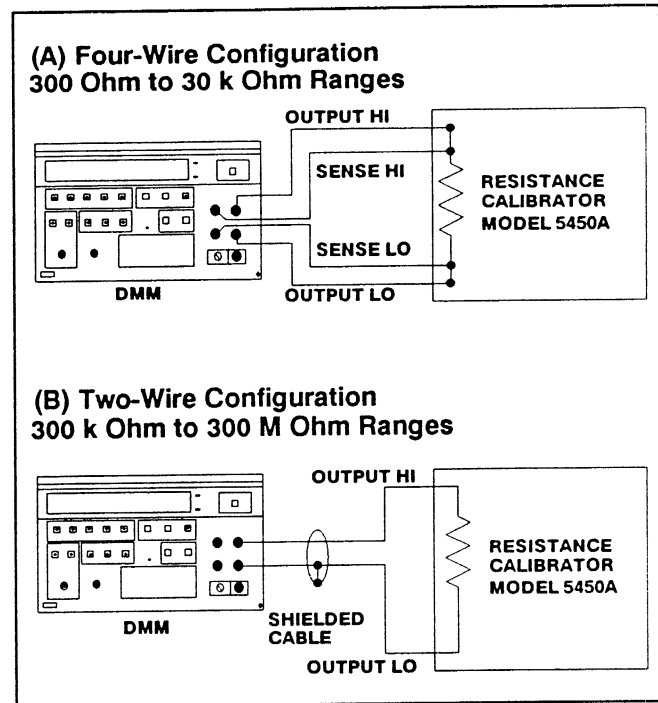

Fig. 3-2. Resistance Calibration Configuration.
- Connect the DMM to the resistance calibrator as shown in Fig. 3-2 (A).
- Repeat steps d through h for the remaining ^{ohms} ~~DCV~~ ranges using Table 3-3 and Fig. 3-2 as a guide.